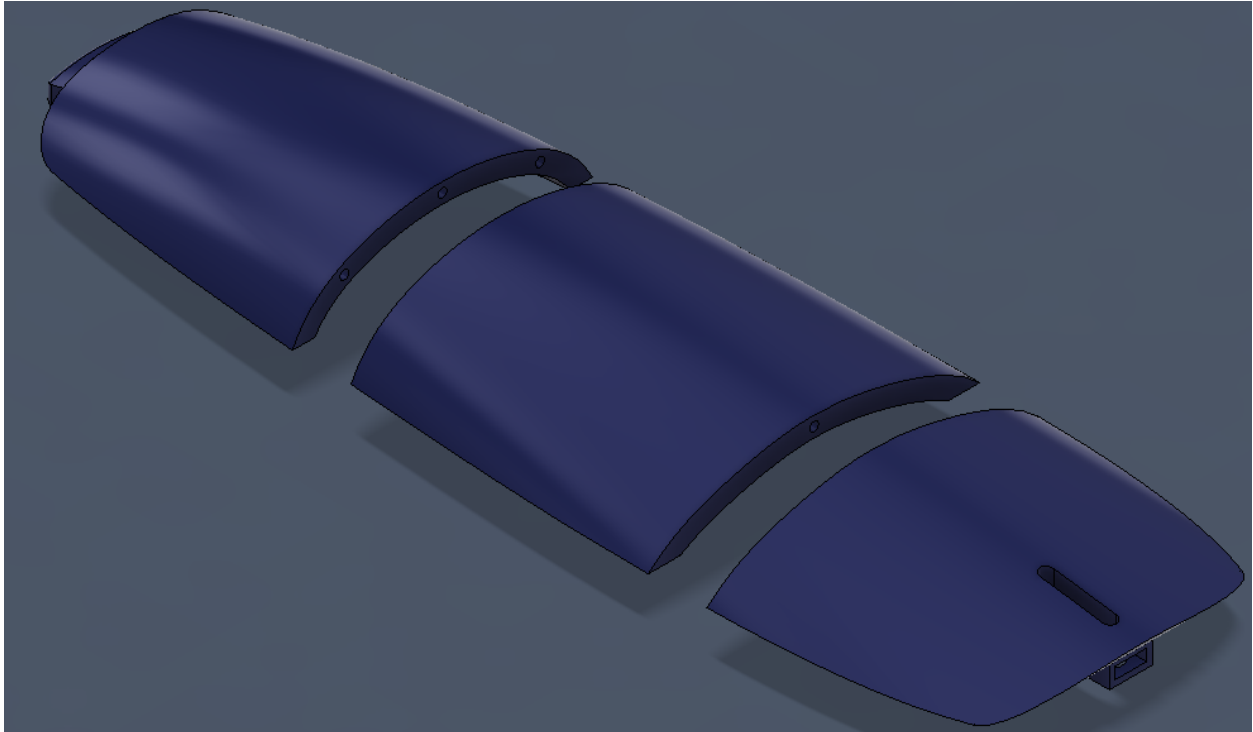

Figure 11: Canopy assembly
Insert the four filament inserts into the designated holes on the canopy parts. Apply glue to the mating surfaces of **Canopy (1)**, **Canopy (2)**, and **Canopy (3)**, then carefully press them together, ensuring proper alignment as seen in figure 11. Hold the assembly until the glue sets securely and the canopy parts are firmly bonded.